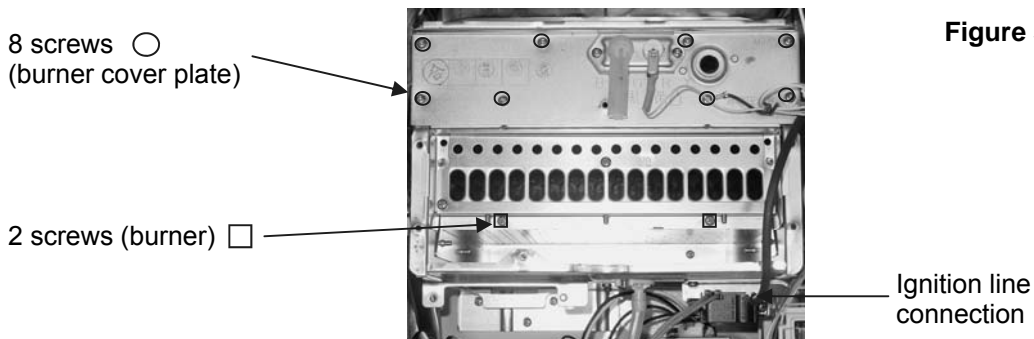

Figure 5
Remove Burner and Burner Cover Plate (Figure 5)
17. Unscrew the ignition line connection. (Figure 5)